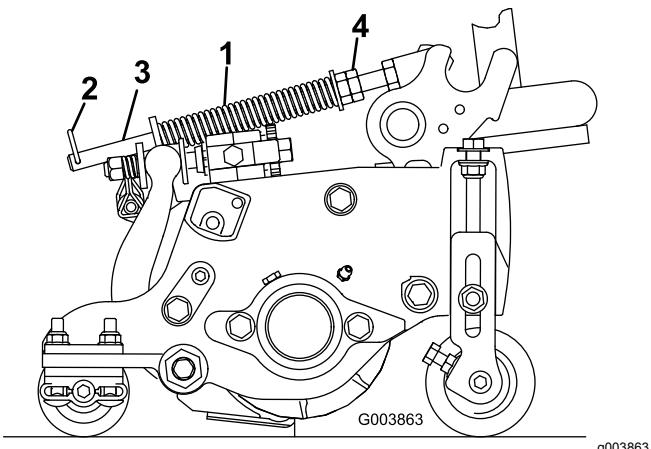

Figure 15
The turf-compensation spring (Figure 15) transfers weight from the front to the rear roller. This helps to reduce a wave pattern in the turf, also known as marcelling or bobbing.
- 1. Make sure the hairpin cotter is installed in the rear hole in the spring rod (Figure 15).
2. Tighten the hex nuts on the front end of the spring rod until the compressed length of the spring is 12.7 cm (5 inches) on Reelmaster 5410 (5-inch cutting units) or 15.9 cm (6.25 inches) on Reelmaster 5510 (7-inch cutting units); refer to Figure 15.